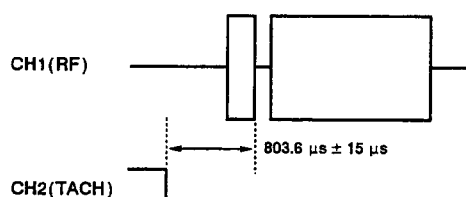

Fig. 6-5
- 4). Adjust trimmer resistor R408 so that the time from the trailing edge of the TACH waveform to the marker of the RF waveform is $803.6 \pm 15 \mu\text{s}$, as shown in Fig. 6-5.